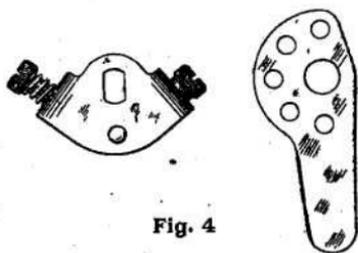

Fig. 4
**Throttle control.** — The throttle control of the Solex is provided for by means of an abutment plate (fig. 4) which is fixed on the end of the spindle and is provided with a fixed limit opening screw which is non adjustable and with a spring loaded adjustable slow running screw. On the outer part of this plate there is fixed a small dowel pin which engages with a convenient hole in the throttle